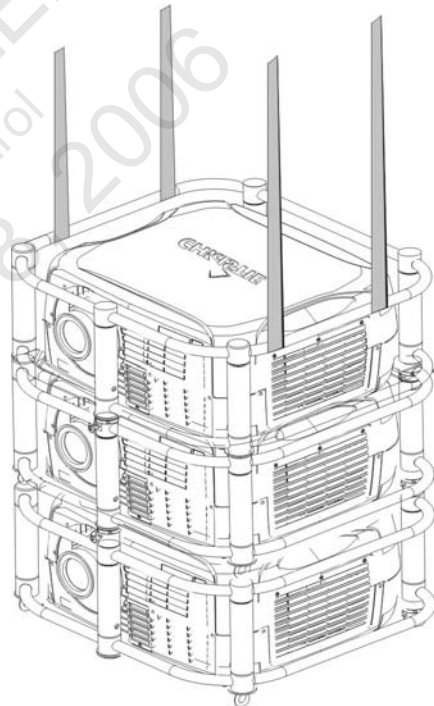

Figure 4. Four Rigging Points
4. It is mandatory to use four rigging points. Ensure the straps, clamps or cabling meet the adequate load capacity for the total projector(s) weight. **DO NOT** join the rigging straps or cables to a common point – keep separated. Refer to Figure 4.